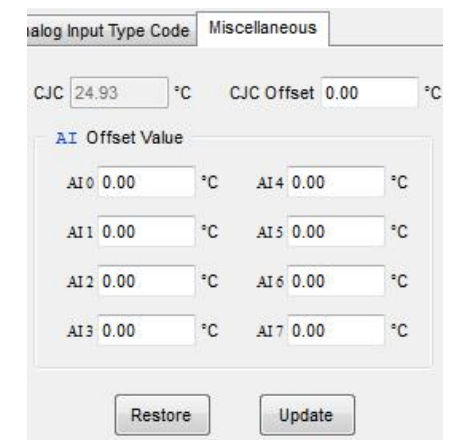

Figure3
- 7) If you need to set up **the temperature compensation**, choose the Thermocouple mode from below **figure3** After the setup is finished, click the “update” button.